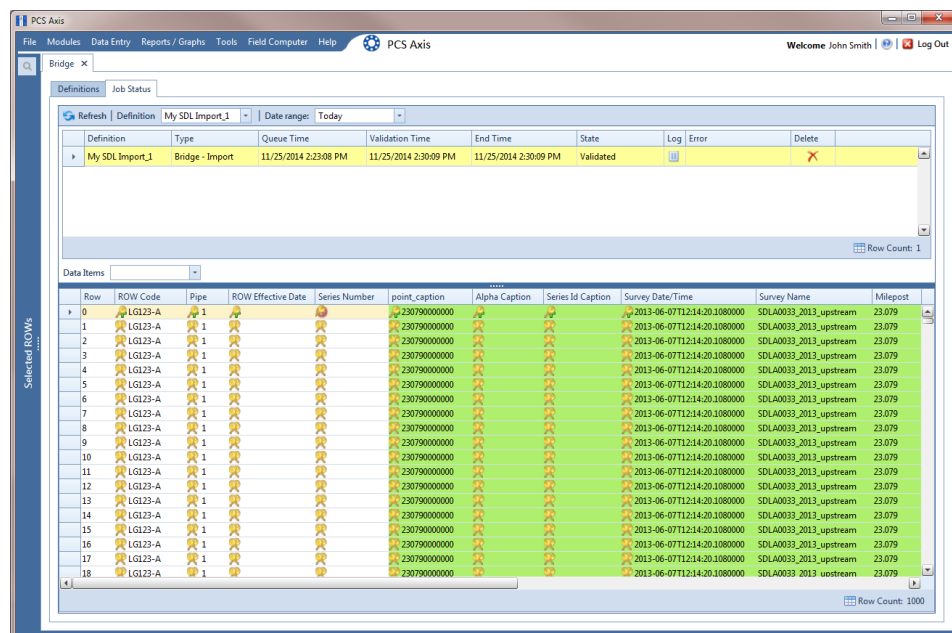

Figure 10-24. Job Status
- 18 To view the status of the Bridge session, click  **Job Status** in the *Definitions* window to open the *Job Status* window (Figure 10-24, page 512). Clicking  **Log** for a Bridge session opens the log file for the selected session.